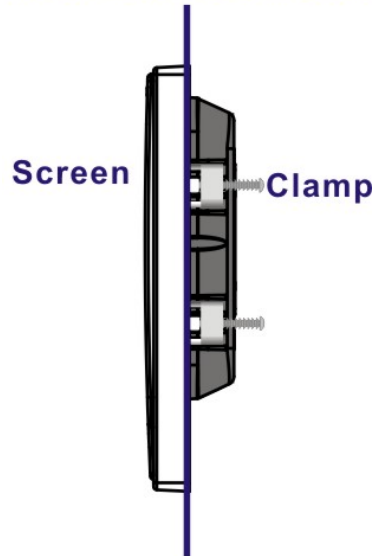

Figure 4-20: Secure the Rack/Cabinet Bracket
Step 3: Tighten the screws that pass through the rack mounting clamps until the plastic caps at the front of all the screws are firmly secured to the bracket (**Figure 4-20**).